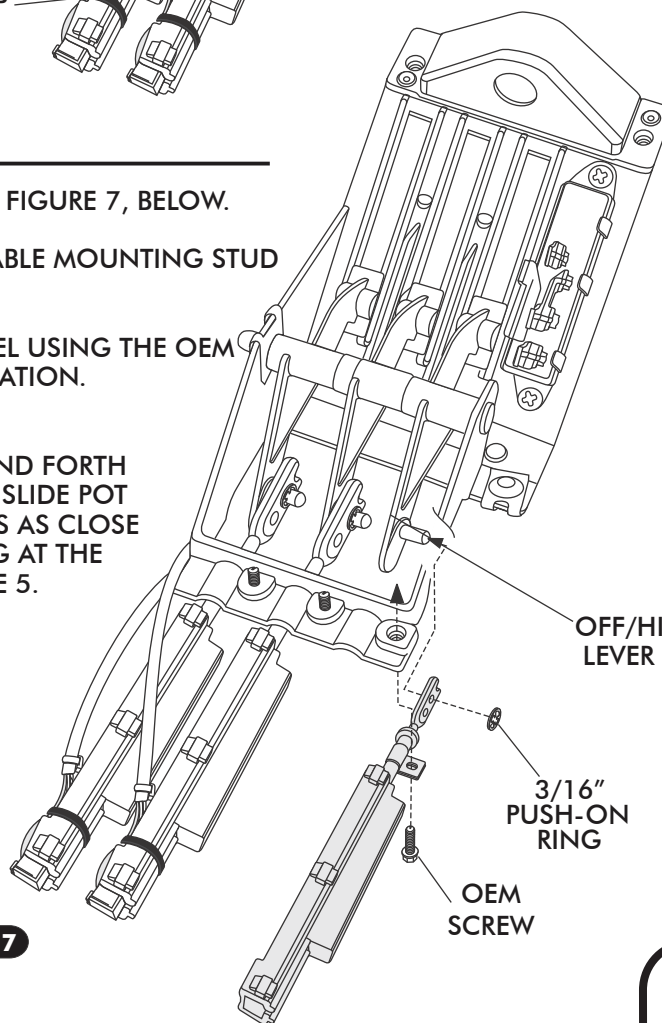

FIGURE 7
- INSTALL SLIDE POT ASM ON THE OFF/ HI LEVER. SEE FIGURE 7, BELOW.
- INSTALL SLIDE POT LEVER PUSH ROD ONTO OEM CABLE MOUNTING STUD ON LEVER. SEE FIGURE 7, BELOW.
- SECURE THE SLIDE POT ASM TO THE CONTROL PANEL USING THE OEM SCREW IN THE OEM CABLE CLAMP MOUNTING LOCATION. SEE FIGURE 7, BELOW.
- SECURE SLIDE POT LEVER PUSH ROD ONTO OEM CABLE MOUNTING STUD USING 3/16" PUSH-ON RING AS SHOWN IN FIGURE 7, BELOW.